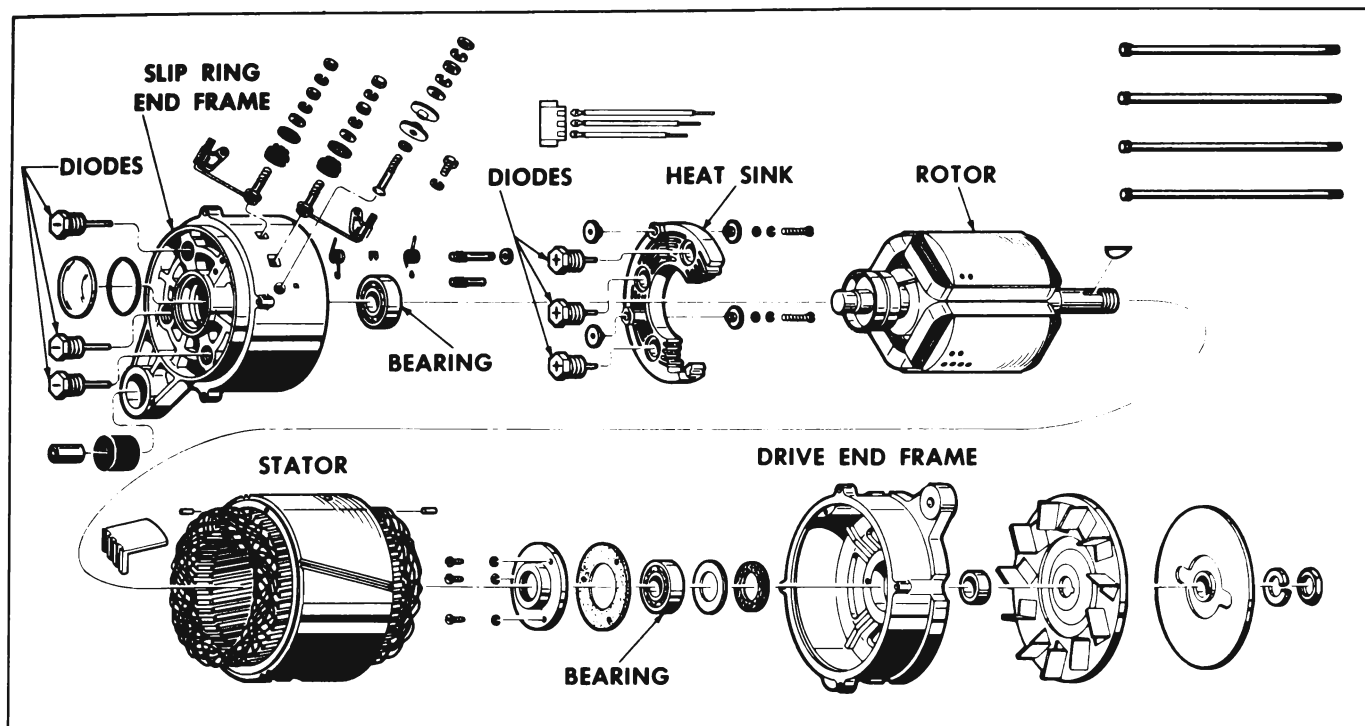

Figure 10-80—Exploded View of Alternating Current Generator
3. Separate drive end frame from rotor by removing shaft nut, lock washer, pulley, fan and woodruff key. See Figure 10-80.
5. Separate slip ring end frame from stator slowly, using a screwdriver to pry apart two halves of nylon connector before completing separation. See Figure 10-80.
Reassembly is the reverse of disassembly. The exploded view in Figure 10-80 can be used as a guide during reassembly. Remember to lift up the brushes to prevent damage from side